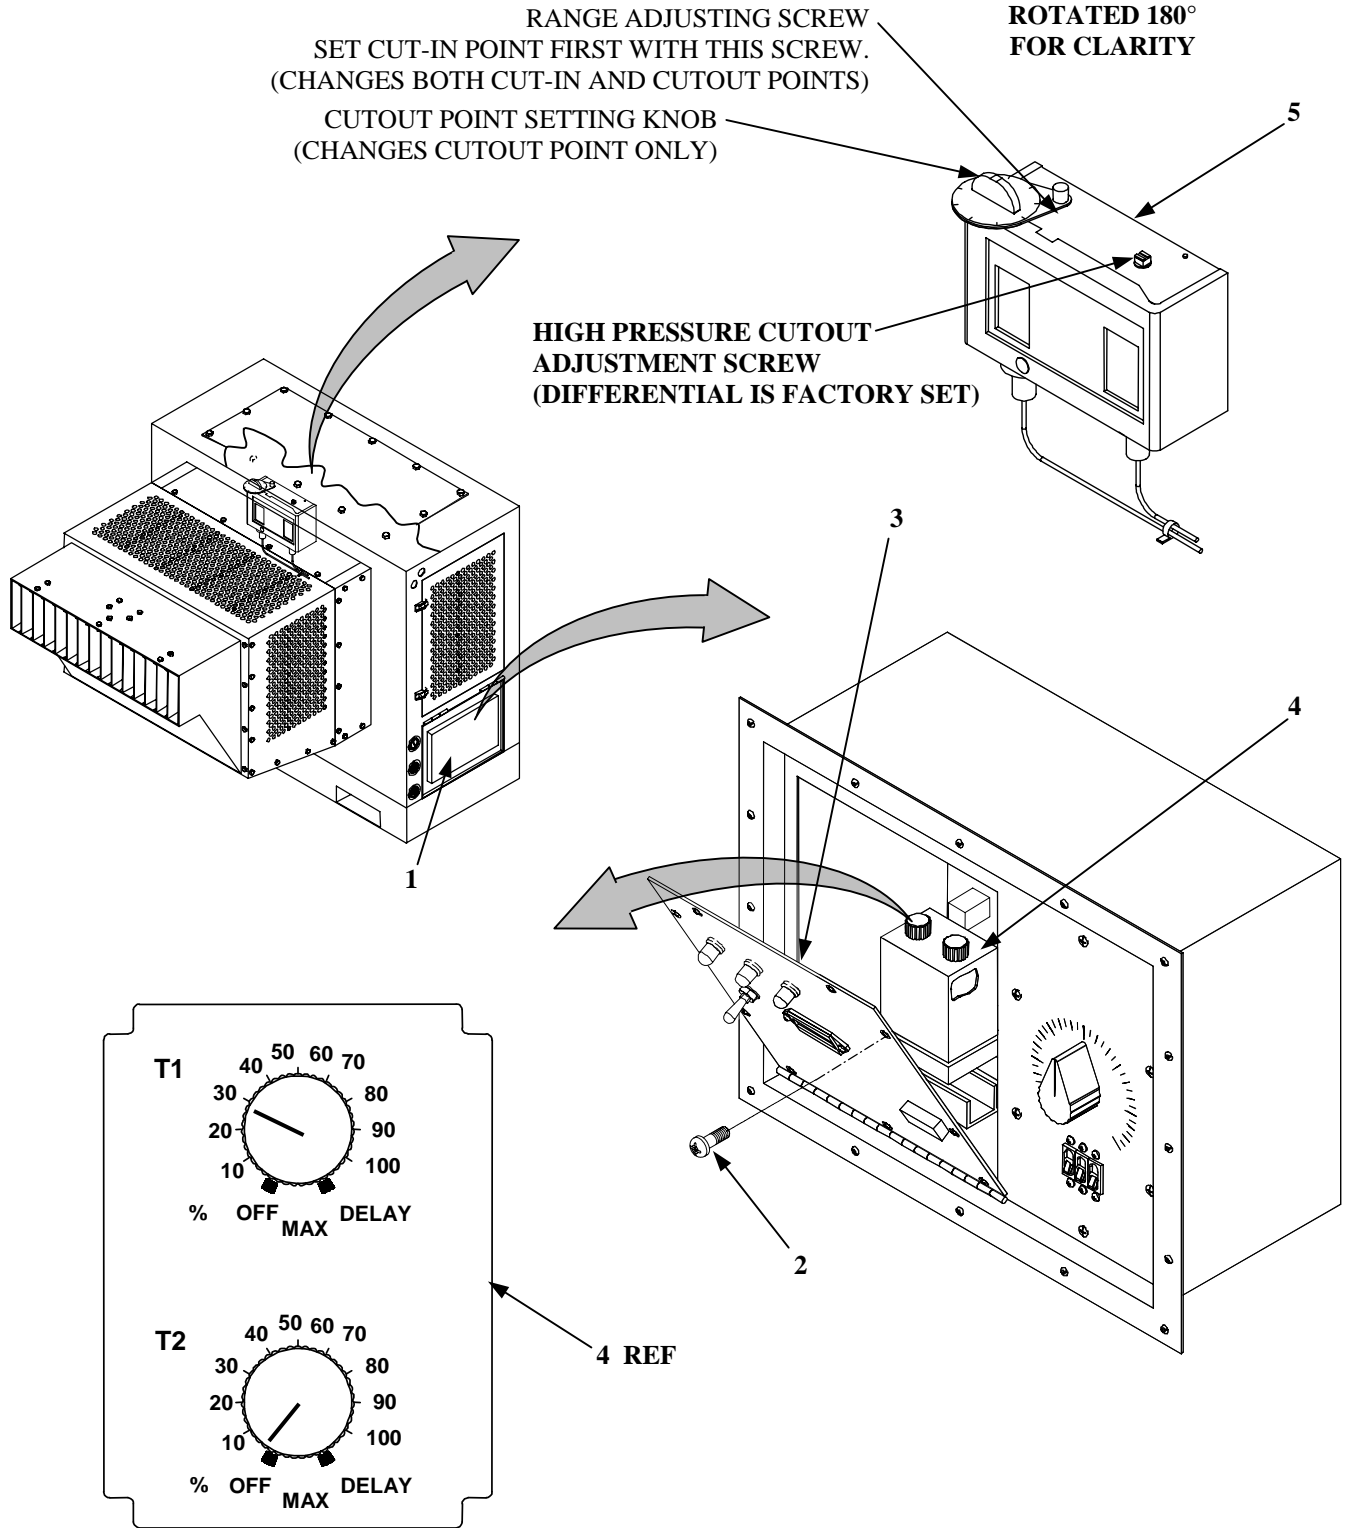

Figure 8. Preliminary Adjustment.
7. Open control box cover (1, Figure 8) and secure open with door holder clips.
- a. Remove six screws (2). Open the control box panel (3).